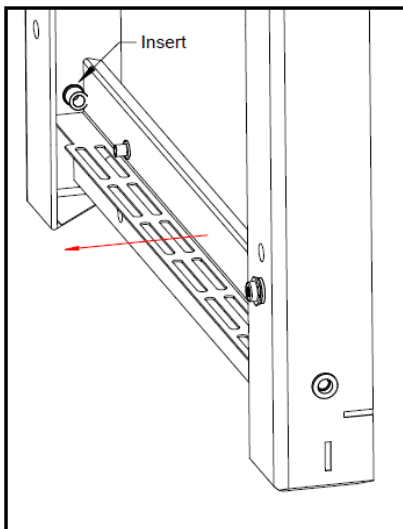

Figure 1
- Place the Frame Vent on the shelf support angle and move in the direction shown in Figure 1 until it contacts the inserts on the front and back faces of the frame.